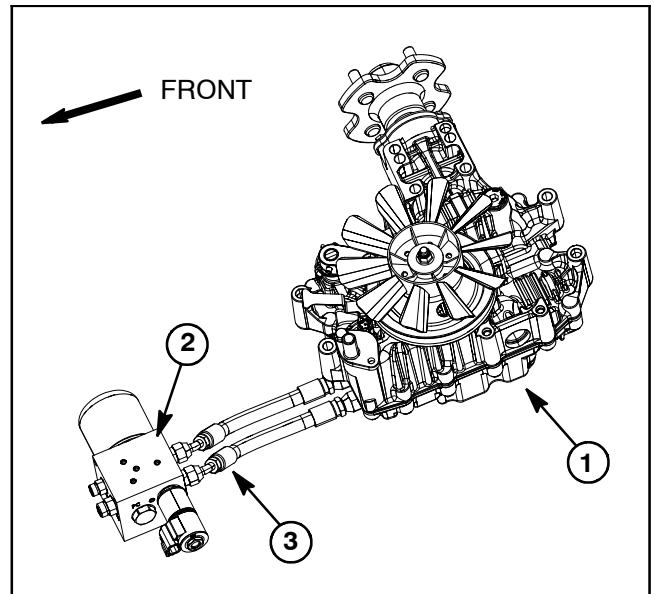

Figure 22
4. Disconnect hydraulic hose from fitting in control manifold port P to allow tester with pressure gauge and flow meter installation (Fig. 22).